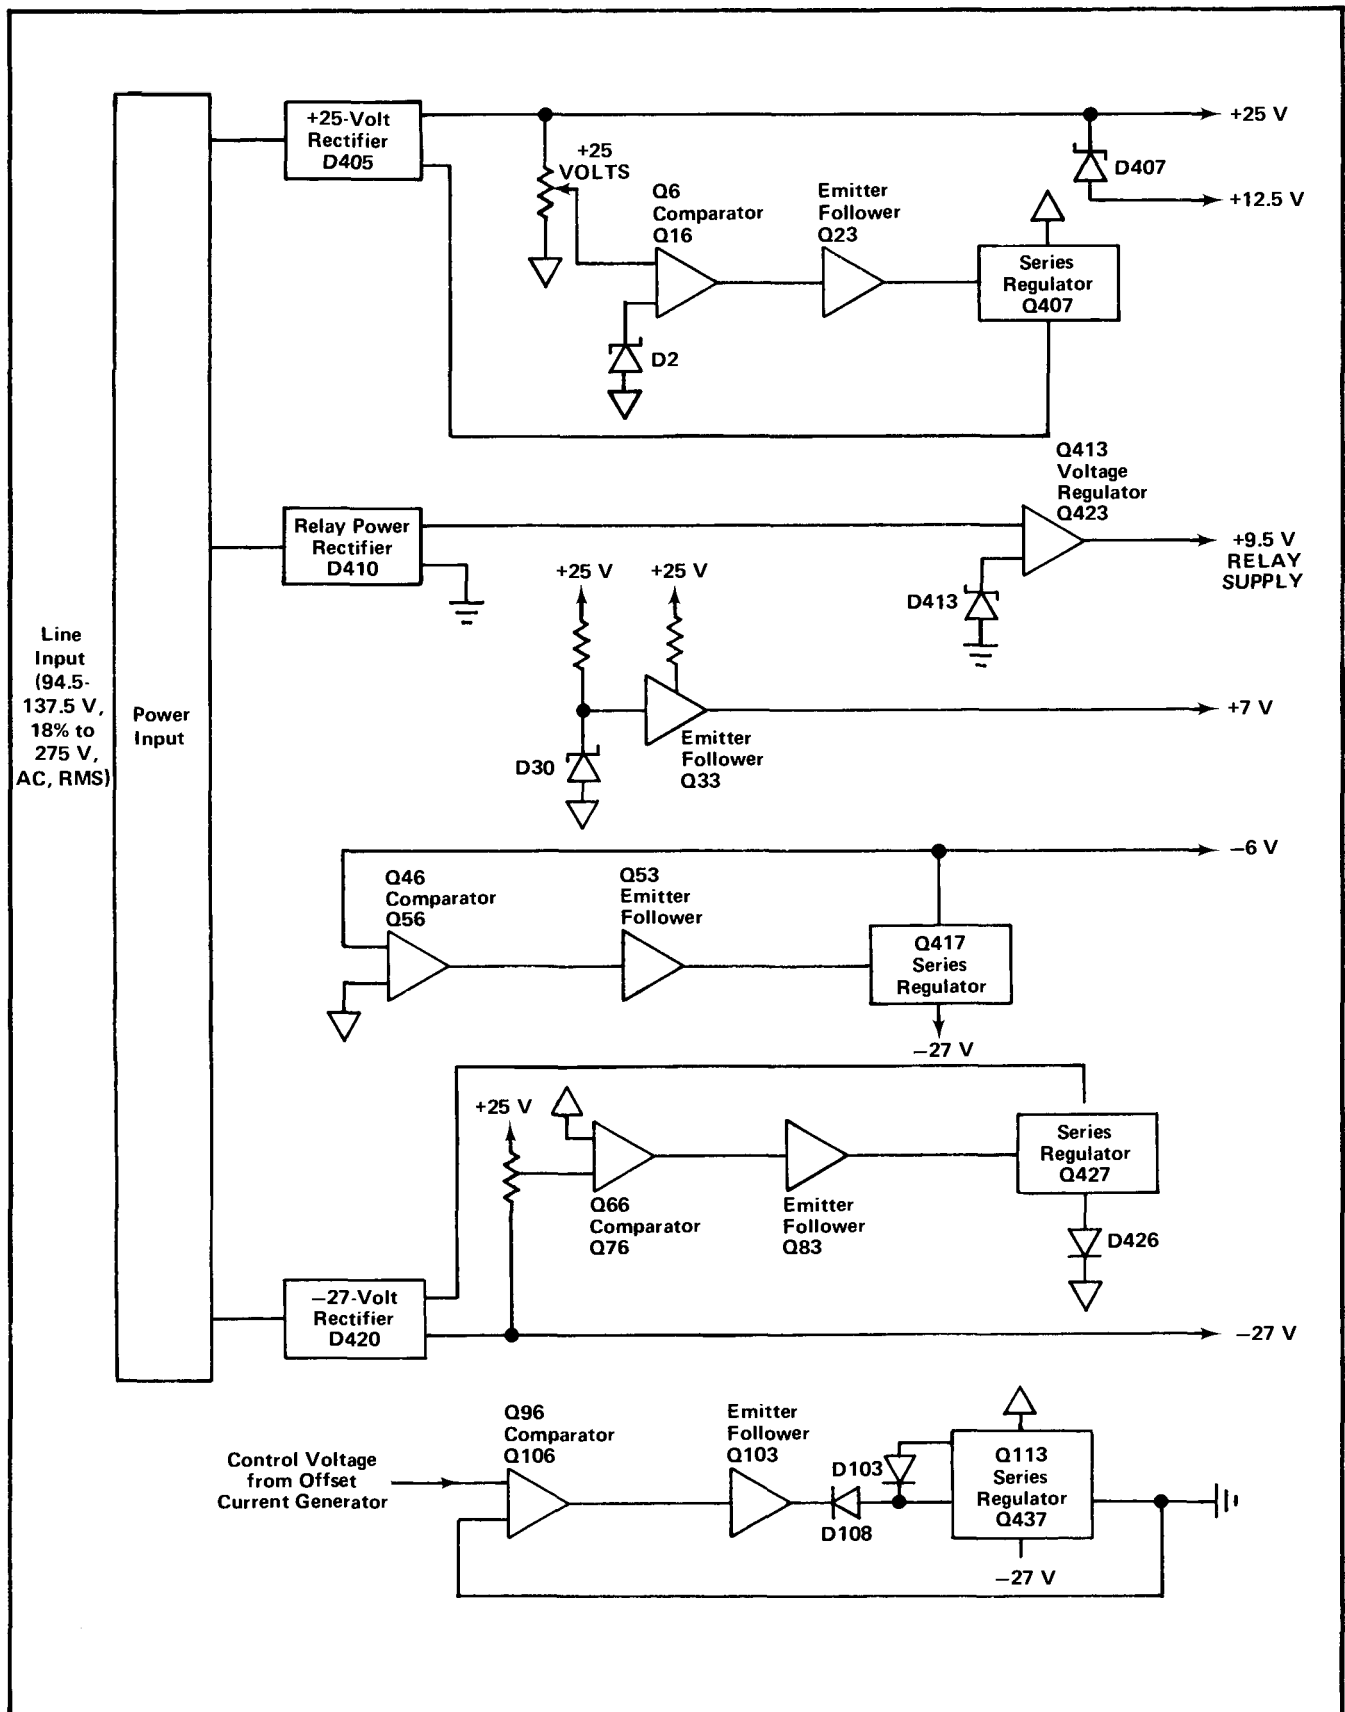

Fig. 4-12. Block Diagram of power supply.
**General.** The Type R116 can be operated either from a  $115\text{ V}$  or a  $230\text{ V}$  line voltage source. The power supply (see Fig. 4-12) consists of a single transformer which has three secondaries and produces 5 regulated voltages:  $+25\text{ V}$ ,  $+12.5\text{ V}$ ,  $+7\text{ V}$ ,  $-27\text{ V}$  and  $-6\text{ V}$ . As discussed in the description of the output stage, the power supply is floating in the sense that all the voltages produced are referenced to signal ground which moves up and down with respect to chassis ground. Also included in the power supply is the variable supply and the relay power supply. The variable supply is referenced to chassis ground and provides variable separation between signal ground (the internal circuitry common reference) and chassis ground. The relay supply is also referenced to chassis ground and provides power for operation of the relays within the instrument.